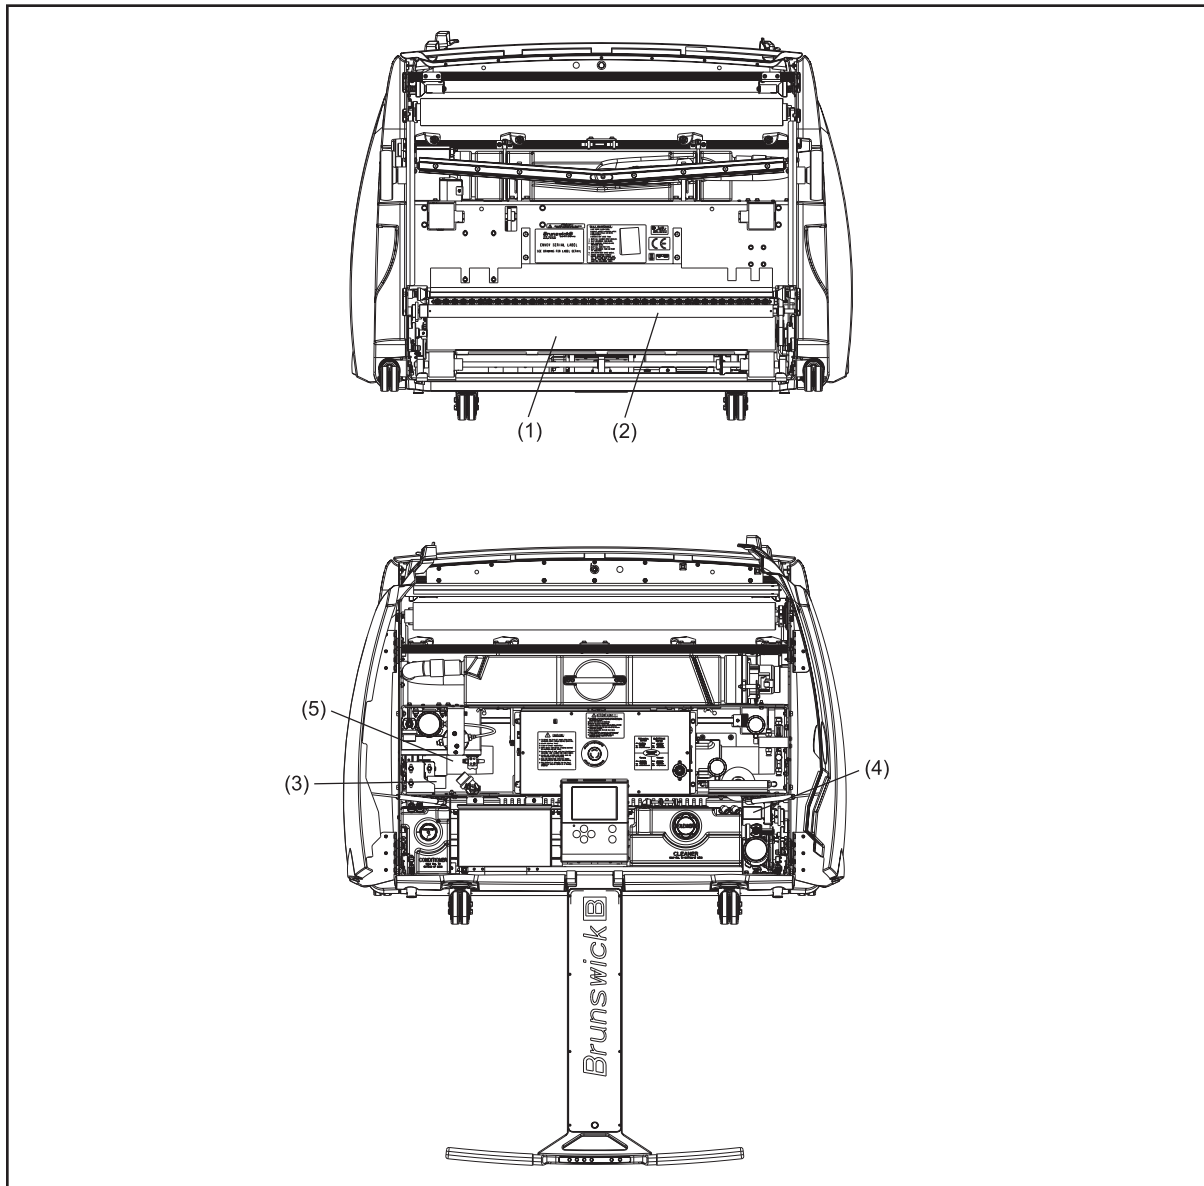

Figure 7-5. Buffing System
1. During the forward travel of the buffing operation, the machine disperses the conditioner on the lane surface and buffs it, then continues its return travel to the foul line. Refer to Figure 7-5.